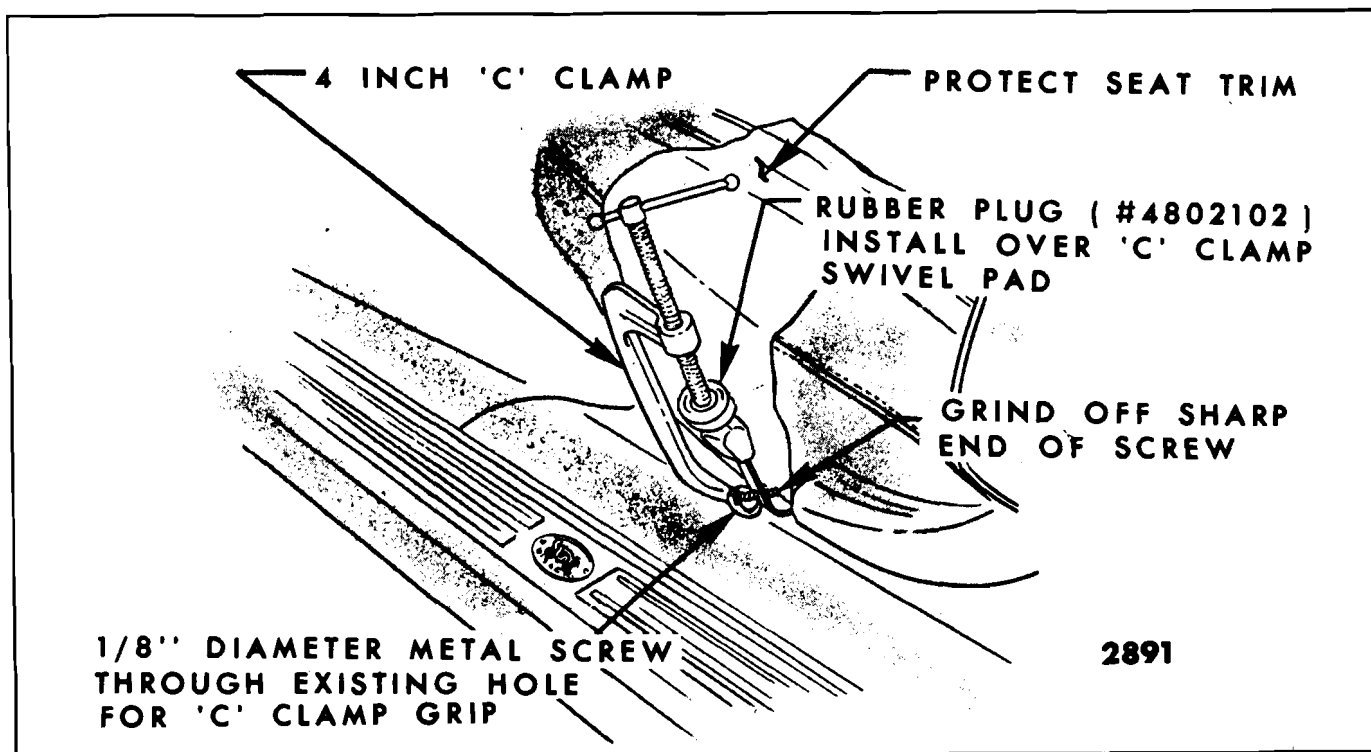

Fig. 15-2—Front Seat Adjuster Control Knob - Installation
2. Insert sheet metal screw in hole provided in adjuster control arm and place "C" clamp in position as shown in Figure 15-2. Use round rubber plug (Part No. 4802102 or equivalent) over swivel pad of "C" clamp to prevent damage to knob and to prevent "C" clamp swivel pad from slipping off knob.